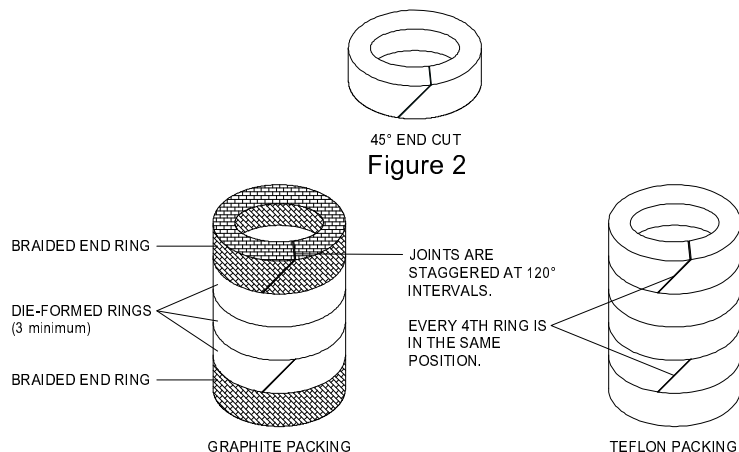

Figure 3
- a. Measure the stem diameter (OD), packing well diameter (ID), and packing well depth (d).
- b. The packing's cross-section thickness (R) = $(ID - OD)/2$
5. Install the new packing. Cut each ring at a 45 degree angle (see Figure 2) and proper length so that the ends meet each other. Stagger the joints at 120 degree. Every 4th joint will be in the same position as the first. Install rings individually (see Figure 3). Tamp each ring when installed.